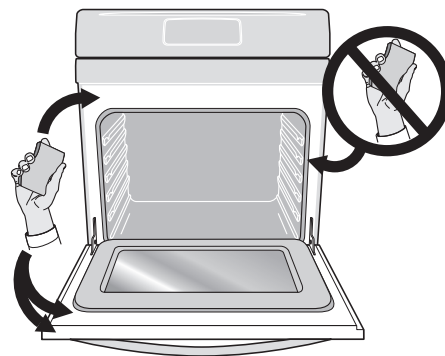

Figure 18: Clean around the oven door gasket
- Do not use oven cleaners or protective coatings in or around any part of the oven interior. Do not clean the oven door gasket. Take care not to rub, damage, or remove the gasket or use any cleaning substances on the oven door gasket (See Figure 18). Doing so could cause damage and reduce the efficiency of the oven's performance.
- Clean any soil from the oven frame, door liner outside the oven door gasket, and the small area at the front center of the oven bottom with soap and water (See Figure 18). These areas heat sufficiently to burn soil on.